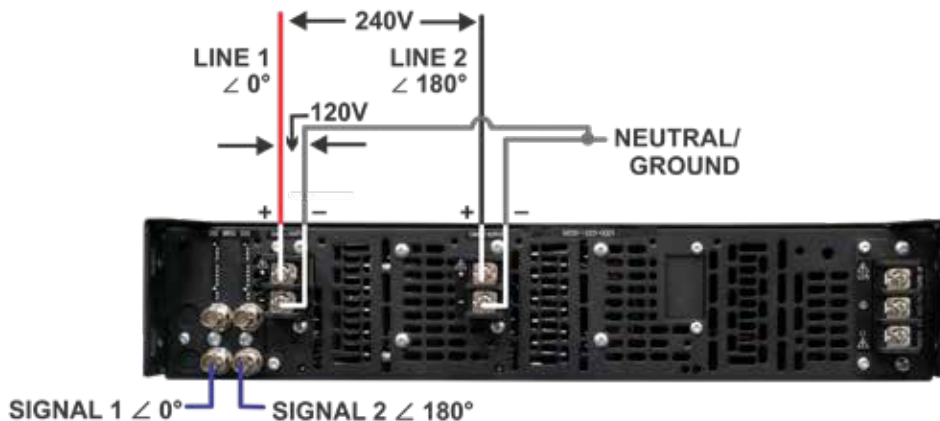

Figure 6.4 – Wiring the 9205 Amplifier as a 240V Split-Phase Electric Supply
2. **Wiring** (refer to **Figures 6.4** and **6.5**)
- D. **Input Connections:** Configure your input signal source to produce synced signals with the required phase offsets and at your desired frequency and levels. Connect your input signal sources to the BNC connectors for each channel as shown in **Figures 6.4 and 6.5**.